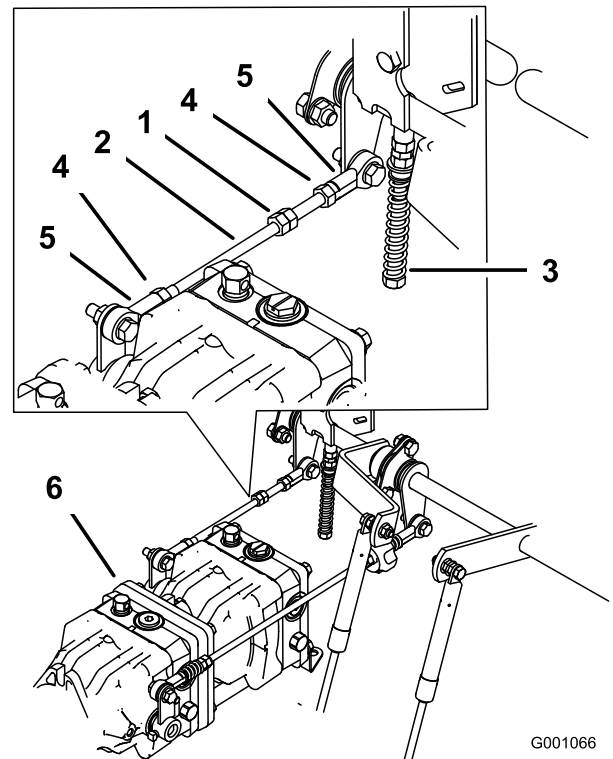

Figure 99
- Loosen the locknuts at the ball joints on the pump control rod (Figure 99).
- Adjust the pump rod length by rotating double nuts on rod, in the appropriate direction, until wheel is still or slightly creeps in reverse (Figure 99).
- Tighten the locknuts at the ball joints (Figure 99).